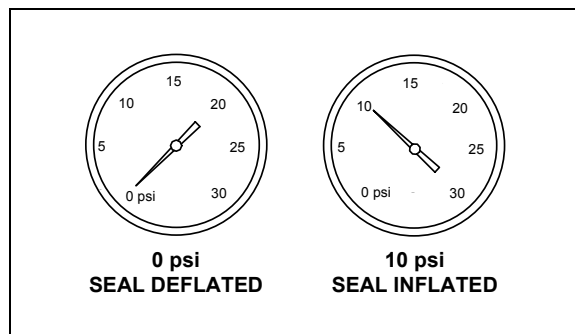

FIGURE 93: INFLATABLE SEAL PRESSURE GAGE
4. Finally, the inflatable seal can be re-inflated by turning the shut-off valve handle counterclockwise. Check the pressure gage on the inflatable seal regulator to see if the pressure is increasing to 10 psi (FIGURE 93).